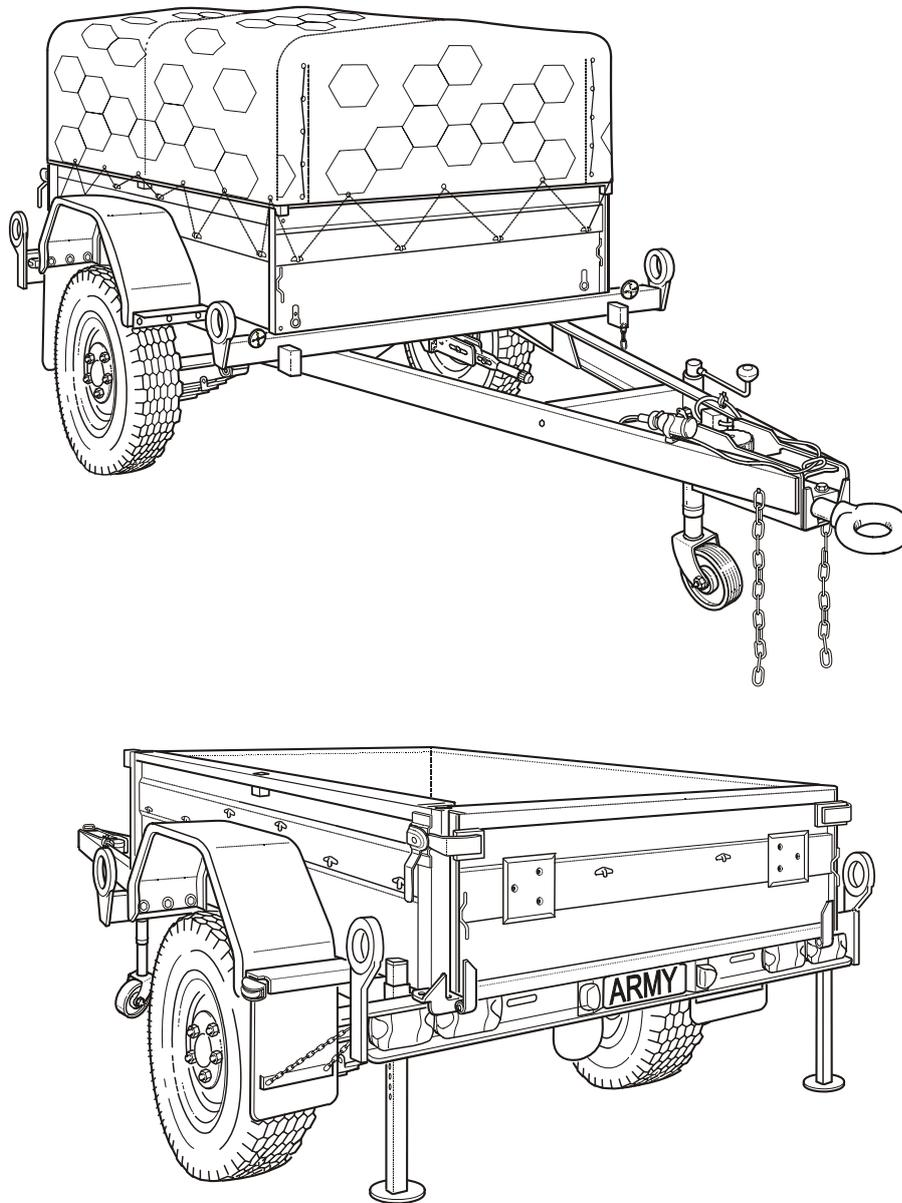

Figure 1 Trailer, Lightweight, Cargo, 750 Kg (Haulmark), MC2
1. This EMEI contains the technical description of the Trailer, Lightweight, Cargo, 750 kg (Haulmark), MC2 illustrated in Figure 1.